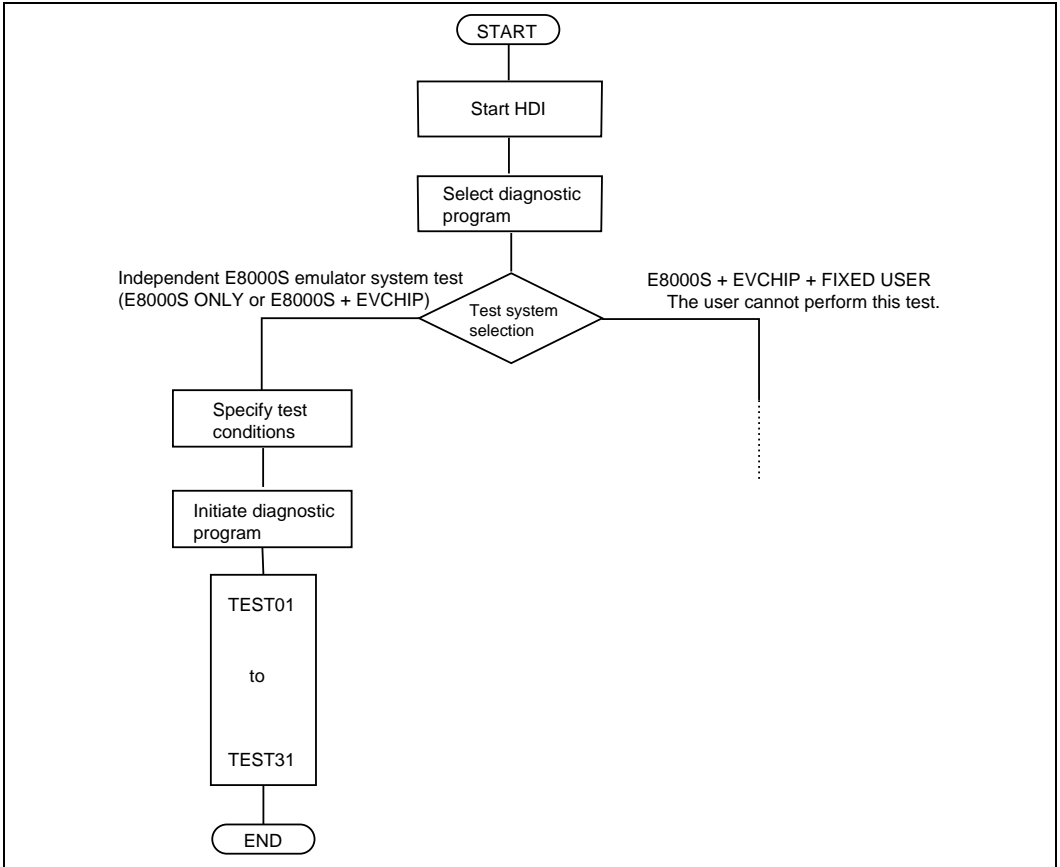

Figure 3.1 Diagnostic Program Operation Flowchart
Figure 3.1 shows the diagnostic program operation flowchart.
5. Execute the diagnostic program using the procedure shown in figure 3.1.